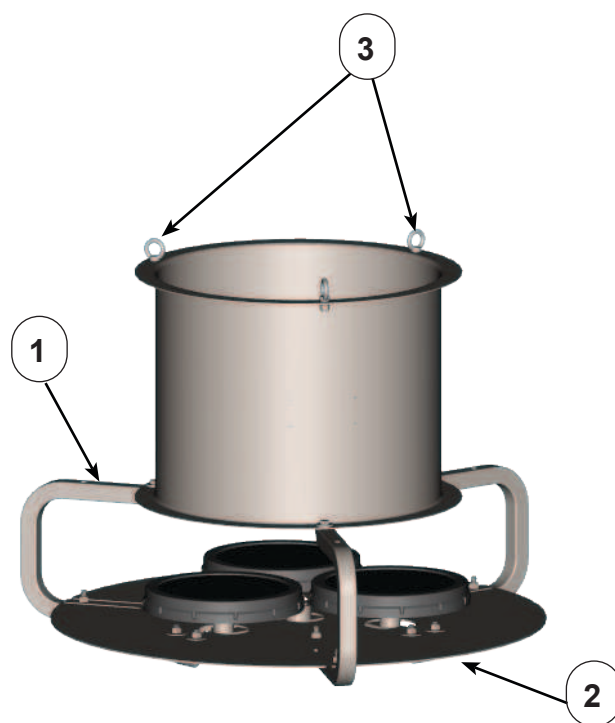

Figure 1: AP Unit Pedestal Configuration
3. Attach the Optional 10" Float Ball with retrieval chain to one of the eyebolts with the quicklinks provided. (See Figure 1)